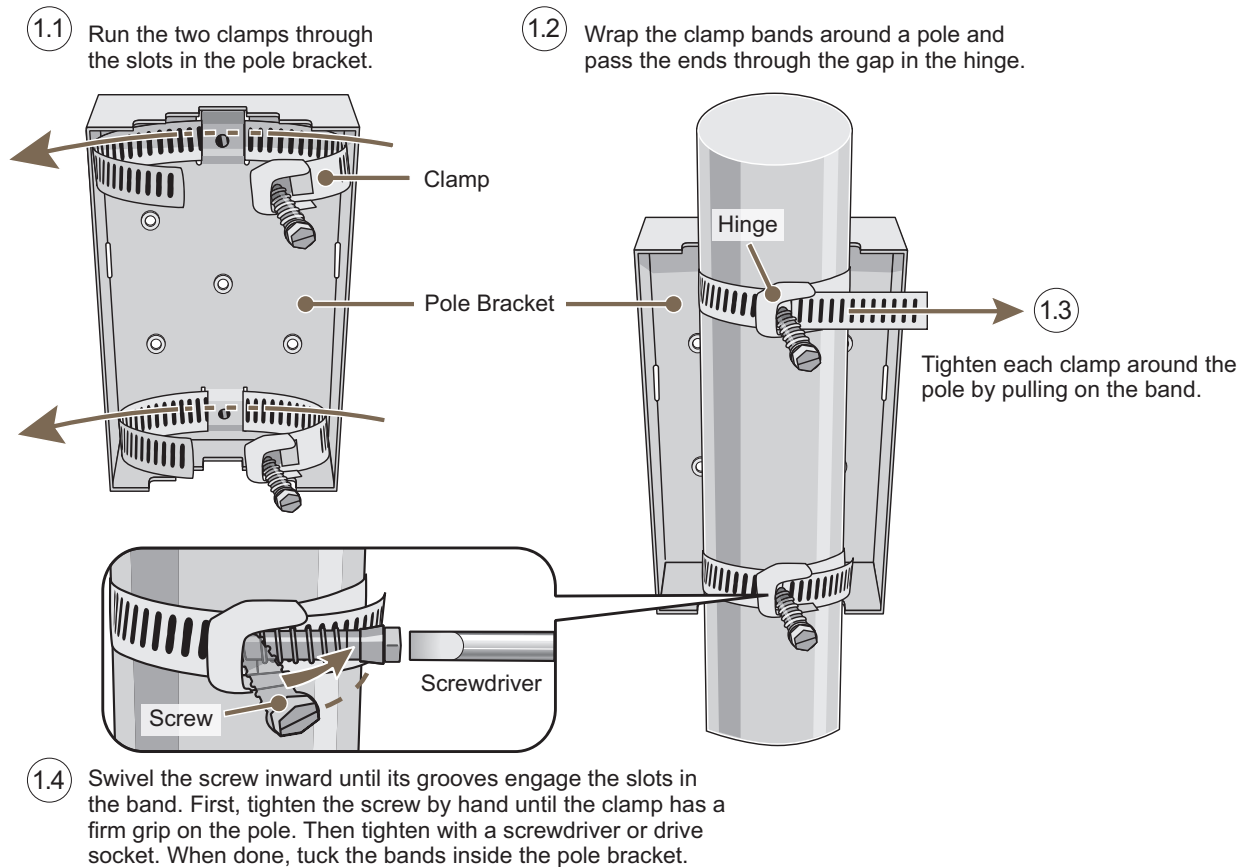

Figure 2. Mounting the pole bracket.
1. To mount the SmartPath AP (LWN602HA) enclosure on a pole or mast, first use the two clamps to attach the pole bracket to the pole, as shown in Figure 2. To tighten the clamps, use a ¼" (2 cm) slotted screwdriver or a ⅜" (10 mm) drive socket (or nut driver).